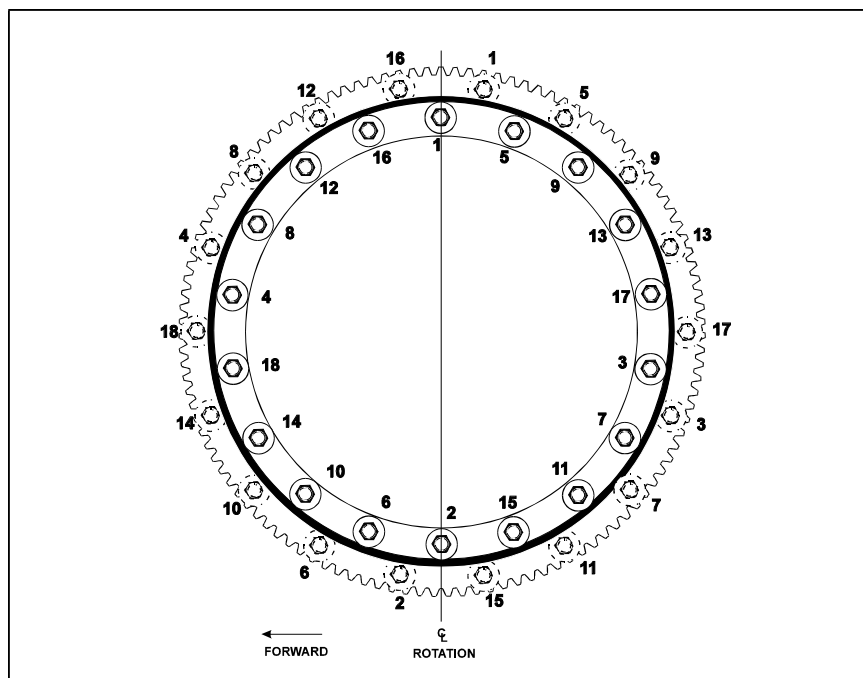

Figure 3-7. Swing Bearing Torque Sequence
- c. Refer to the Torque Sequence diagram as shown in Figure 3-7., Swing Bearing Torque
- h. Following the Torque Sequence diagram shown in Figure 3-7., Swing Bearing Torque Sequence, tighten the bolts to a torque of 240 ft. lbs. (326 Nm) w/Loctite.